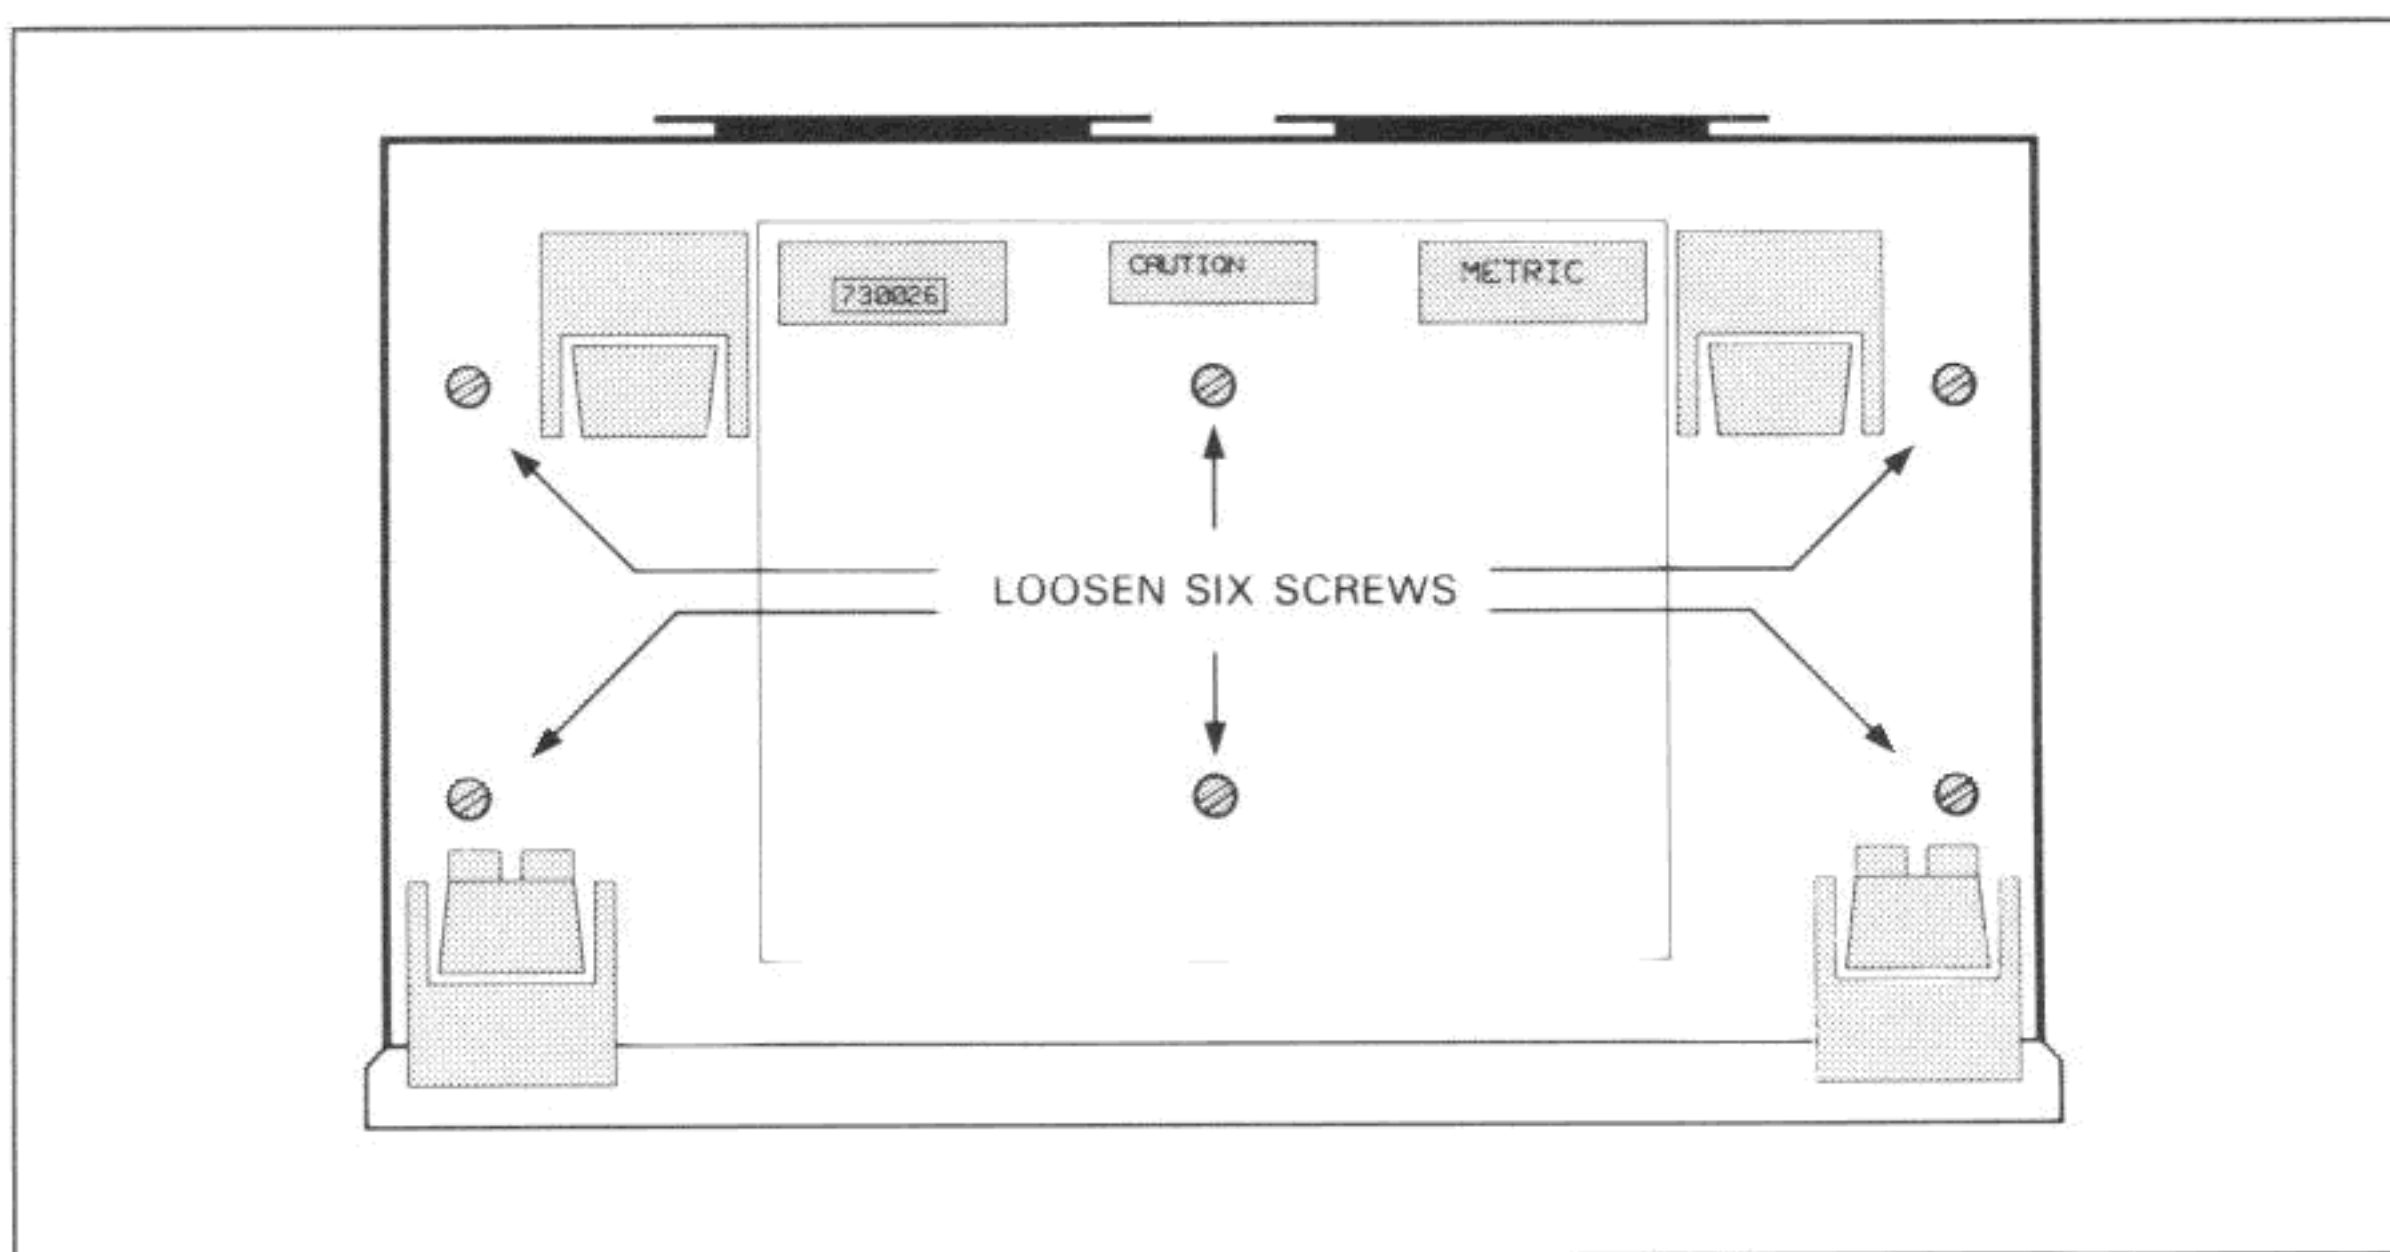

Figure 1-2-2. HP 3421A Disassembly
- b. Turn the instrument upside down. This is preferably done on top of a protective mat to reduce the possibility of scratching or marring the instrument case. Refer to Figure 1-2-2 and loosen the six screws on the instrument bottom.